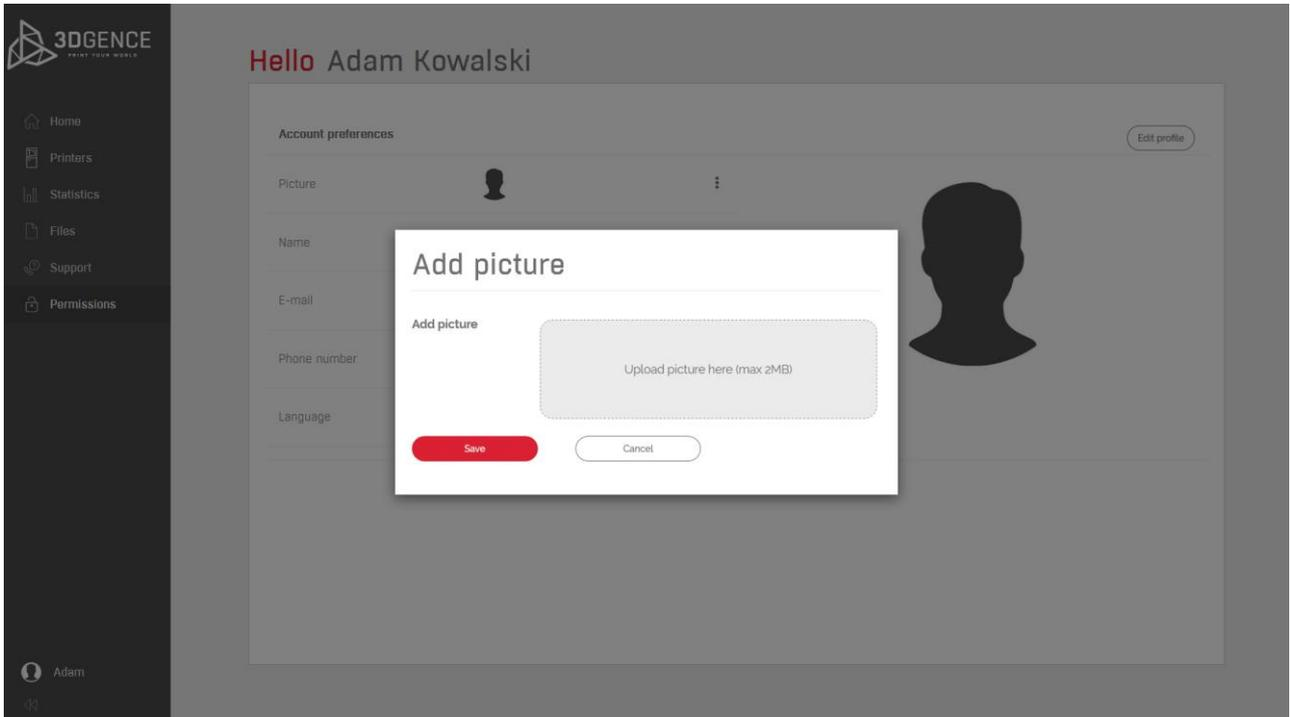

Fig. 28 Add a profile photo
3. Use this to add or replace your photo (Fig. 28).